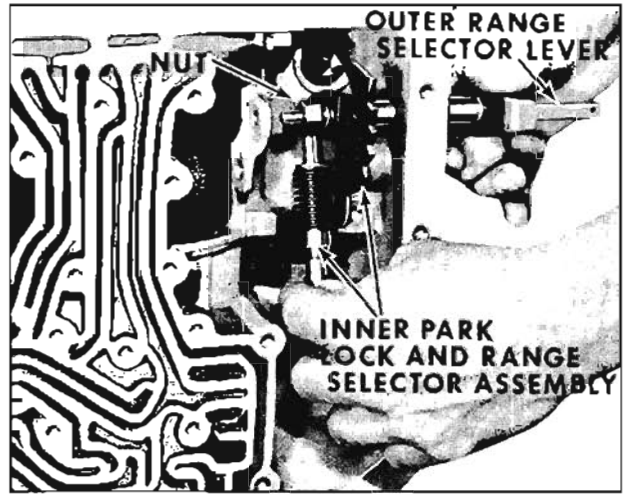

Fig. 6-300 Removing Outer Range Selector Lever
4. Slide outer range selector lever out of case. Remove nut, inner park lock and range selector lever. (Fig. 6-300)